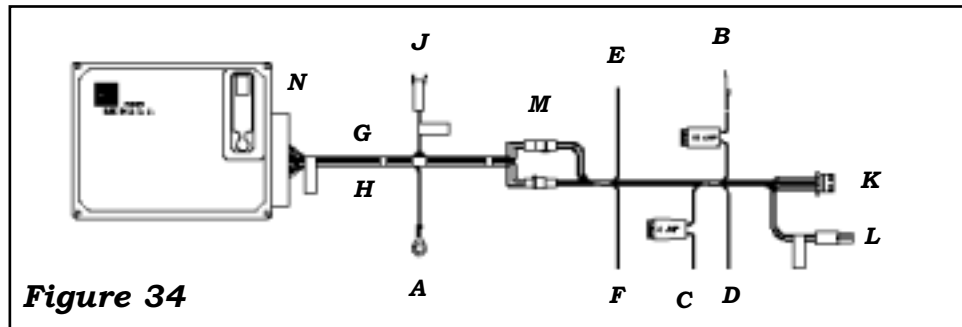

Figure 34
- B.** STRAIGHTEN THE **CRUISE HARNESS** AND FIND THE **2- & 4-PIN** MATING CONNECTORS. SEPERATE THE **2- & 4-PIN** CONNECTORS. A SMALL SCREWDRIVER MAY BE NEEDED (SEE **K** IN **FIGURE 34**).
UTILIZE **FIGURE 34** TO MAKE THE NECESSARY WIRING HARNESS CONNECTIONS TO YOUR VEHICLE.
THE **GRAY VEHICLE SPEED SIGNAL (VSS)** WIRE IS HOW THE **GLOBALCRUISE** “KNOWS” HOW FAST THE VEHICLE IS MOVING. THE **PULSES PER MILE/KILOMETER (PPM/PPK)** ARE A CHARACTERISTIC OF THE VEHICLE AND MUST BE SET ACCORDINGLY (SEE **PAGE 7**). IF **VSS** CANNOT BE LOCATED ON THE VEHICLE THEN AN AUXILIARY ROAD SPEED SENSOR MUST BE USED [**SIGNAL GENERATOR** OR **MAGNET & COIL PICK-UP KIT (KIT# 250-4165)**]. IF YOU USE AN AUXILIARY SPEED SENSOR, PLUG IT INTO AUXILIARY SPEED SENSOR CONNECTOR (**G** IN **FIGURE 34**) AND TRIM THE **GRAY VSS** WIRE AS NOT TO PICK-UP ANY STRAY SIGNALS.
THIS CONNECTOR IS USED IN CONJUNCTION WITH THE **4-PIN SWITCH CONNECTOR (H IN FIGURE 34)**. THE **2-PIN SWITCH CONNECTOR (J IN FIGURE 34)** IS UTILIZED BY CONTROL SWITCHES WHICH REQUIRE AN ADDITIONAL POWER AND GROUND SOURCE SUCH AS THOSE CONTAINING AN **LED** INDICATOR LIGHT OR **ROSTRA RADIO FREQUENCY (RF)** MODELS.